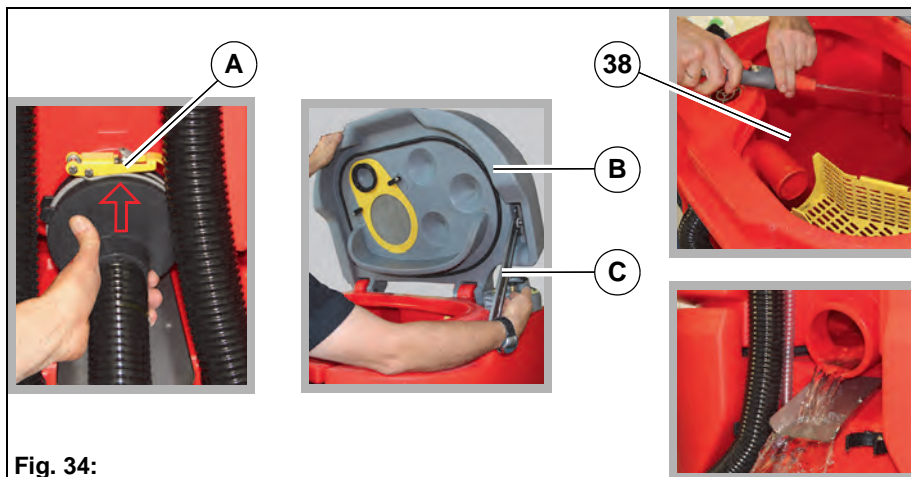

**Fig. 33:**
Clean the waste water tank **Fig. 34-38** daily or as required. When the symbol *Waste water tank full* **Fig. 33-A** appears in the display panel and an acoustic warning signal is output, the suction functions are switched off and the waste water tank should be drained immediately.
4. Remove the drain hose from the holder, open the drain valve **Fig. 33-A** and drain the waste water tank via the drain.